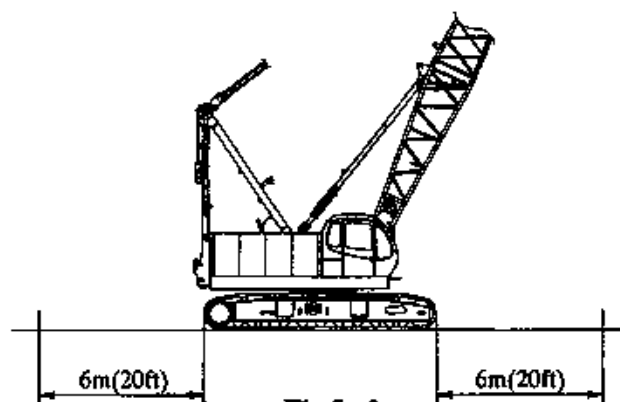

Fig 5-3
- (3) Turn the upper structure so that the upper structure is parallel to the crawlers, and secure clearances of 6 m (20 ft) from each of the front and back of the crawler frame (Fig. 5-3).